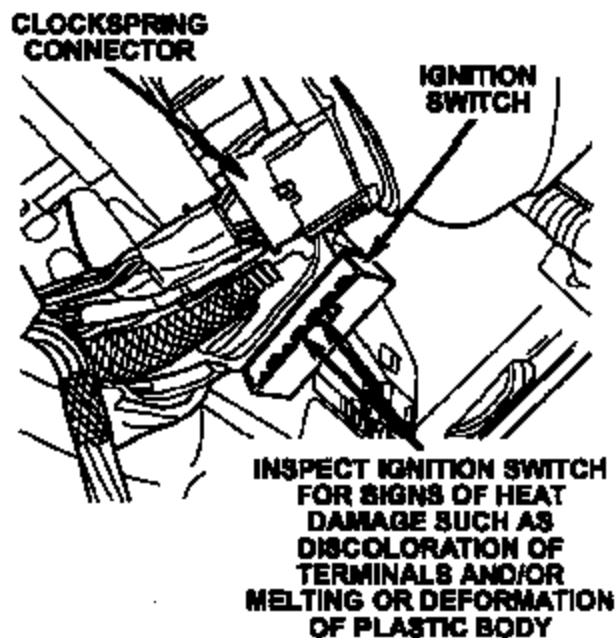

Figure 6
8. Inspect the ignition switch assembly for heat damage near the 4th and 5th terminals (Figure 6).